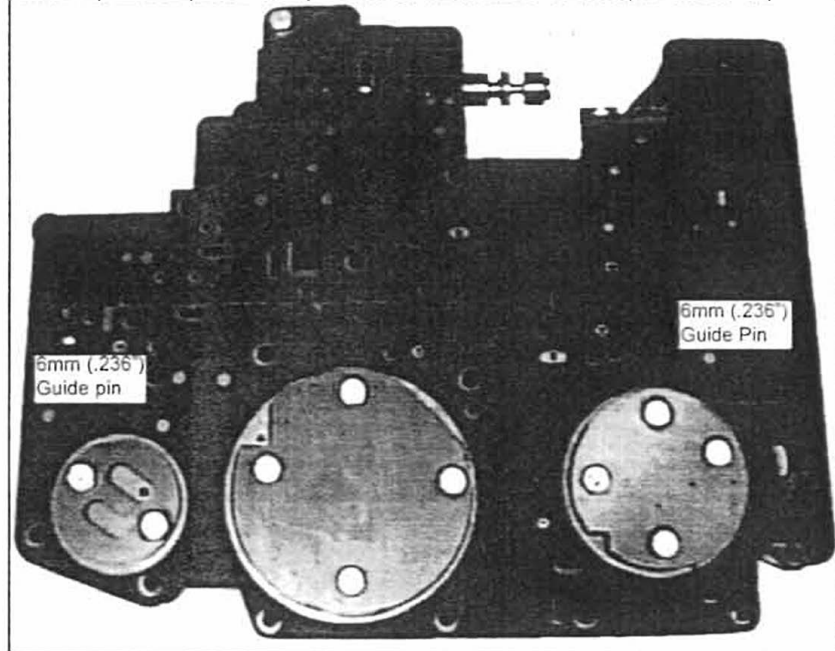
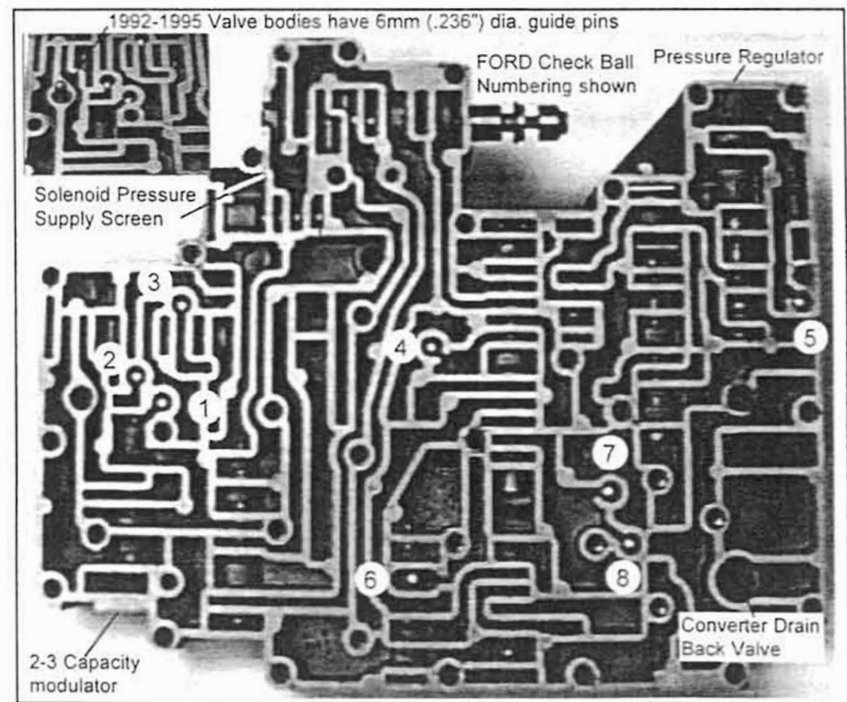

Figure 3. '92-'95 (TYPE A) Valve Body & Cover Plates
Figure 9. '92-'95 Check Ball Locations (TYPE A Valve Body)
valve body on a clean surface with the separator plate side facing up. Make a note of the orientation of the three round reinforcement plates (See Fig. 3). Remove the eleven (11) 8mm hex head bolts holding the three (3) round reinforcing plates and separator plate to the valve body. Carefully lift the separator plate and gaskets off the valve body. Remove Check Balls, Solenoid Pressure Supply Screen and Converter Drain Back Valve (See Fig. 9). Remove all of the old separator plate gasket material from the case, valve body and separator plate surfaces. Rinse parts with solvent.
Step 12. Install all 8 Check Balls, Solenoid Pressure Supply Screen and Converter Drain Back Valve into valve body (See Fig. 9 or 12). Make sure the two (2) guide pin bolts are installed